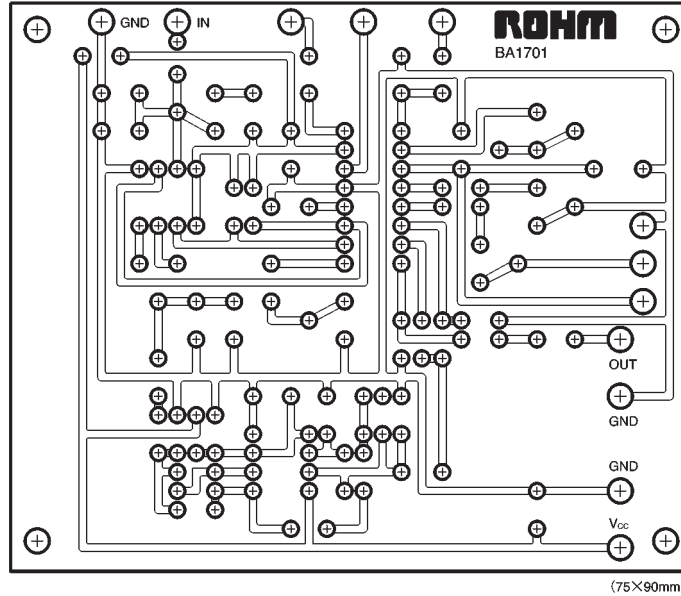

Fig. 6
- (1) Use accurate film capacitors for the VCO time constant capacitor C₁₄ (0.22μF), the RAMP time constant capacitor C₁₇ (1μF), and the BBD clock time constant capacitor (0.0047μF).
- (2) If the AF output pin (pin 8) has a capacitive load, you must take precautions to ensure that the BA1701 AF amplifier does not oscillate. We recommend that you insert R₁₉ (about 10kΩ) in the signal output line.
- (3) To prevent oscillation, position the earth point of the BBD clock time constant pin (pin 9) close to the GND pin (pin 13) (see Fig. 6).